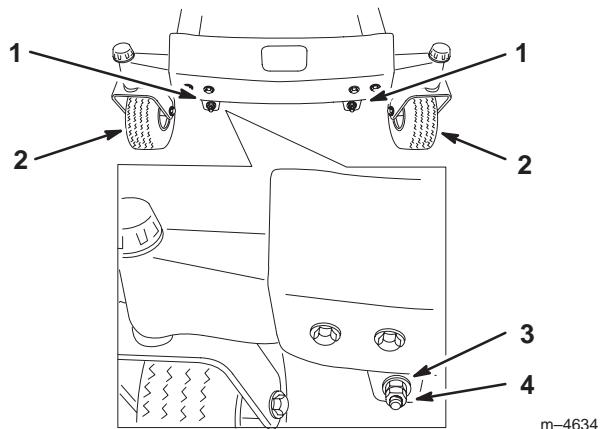
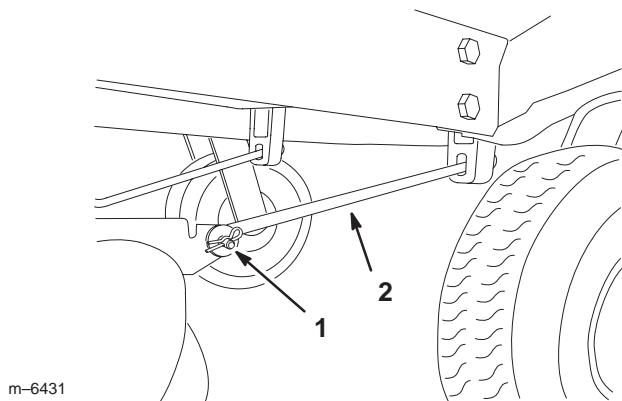

Figure 43
Figure 45
- To adjust the front-to-rear blade slope, remove the locknuts and then rotate the adjustment nuts in the front of the mower (Fig. 43).
- After adjusting both adjustment nuts evenly, check the front-to-rear slope again. Continue adjusting the nuts until the front blade tip is 1/16–5/16 inch (1.6–7.9 mm) lower than the rear blade tip (Fig. 43).
Note: After adjusting the adjustment nuts, make sure there is **no slack** in either support rod (Fig. 45). Tighten either one to remove the slack (Fig. 43).
4. Remove the hairpin cotter and clevis pin from the front support rod on each side of the mower.(Fig. 45).
7. Attach the front support rods to the tractor with the clevis pins and hairpin cots (Fig. 45).